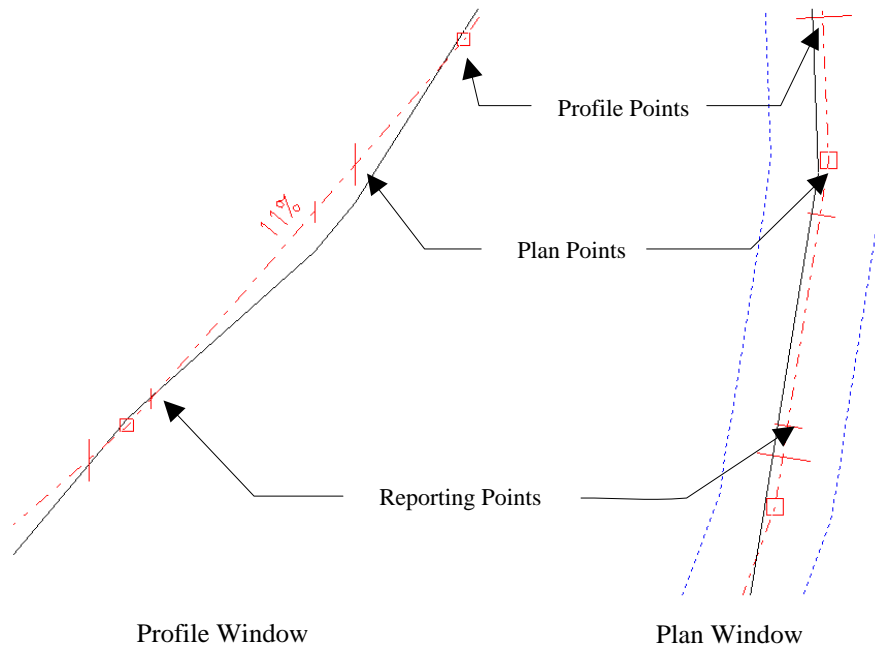

Figure 2.0: Profile and Plan Windows Showing All Three-point Types
- ◆ **Profile Points (VIP = Vertical Intersection Point):** These points are created in the Profile Window and they define the vertical alignment of the L-Line. They have no effect on the horizontal alignment. Profile points are represented as red boxes in the Profile Window and large red ticks in the Plan Window. (See Figure 2.0)
- ◆ **Plan Points (IP = Intersection Point):** These points are created in the Plan Window and they define the horizontal alignment of the L-Line. They have almost no effect on the vertical alignment. Plan Points are represented as red boxes in the Plan Window and large red ticks in the Profile Window. (See Figure 2.0)
- ◆ **Reporting Points:** These points are usually created automatically but can be created manually in the Plan or Profile windows. They have no effect on alignment. Report Points are used to display cross sections and to allow a more accurate representation of earthworks and graphic displays. They are represented as small red tick marks in the Plan and Profile Windows. (See Figure 2.0)
- ◆ **Design Points:** This is the term used to describe all alignment points (Plan, Profile or Report – see above). Cross sections are calculated at all Design Points to generate earthworks and graphic displays. (See Figure 2.0)